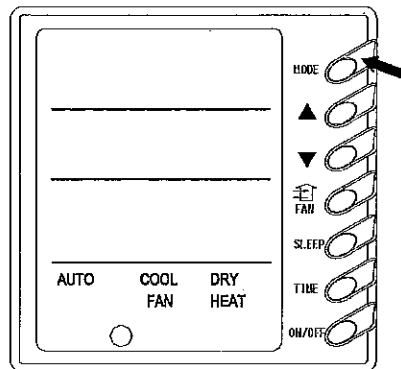

Fig 6
5) Operating Mode Setting (Figure 6) (Note: The Auto mode of this air-conditioning unit can only be controlled by the wire controller but not the remote controller).